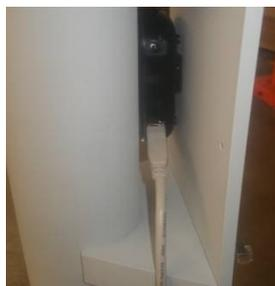

Figure 52
17. Attach the 5 m USB extender cable (part #E1-13047) to the 4-port hub as shown on Figure 52, page 28.